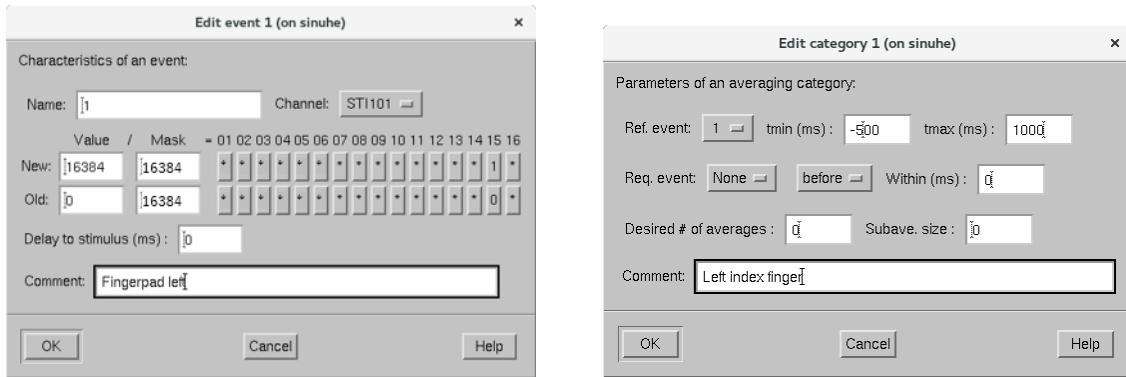

Figure 30: Setup event and averaging characteristics for left index finger movement events.
- Select **Change** next to On-line averaging, then select **Change** to set **Event characteristics** (Figure 30):